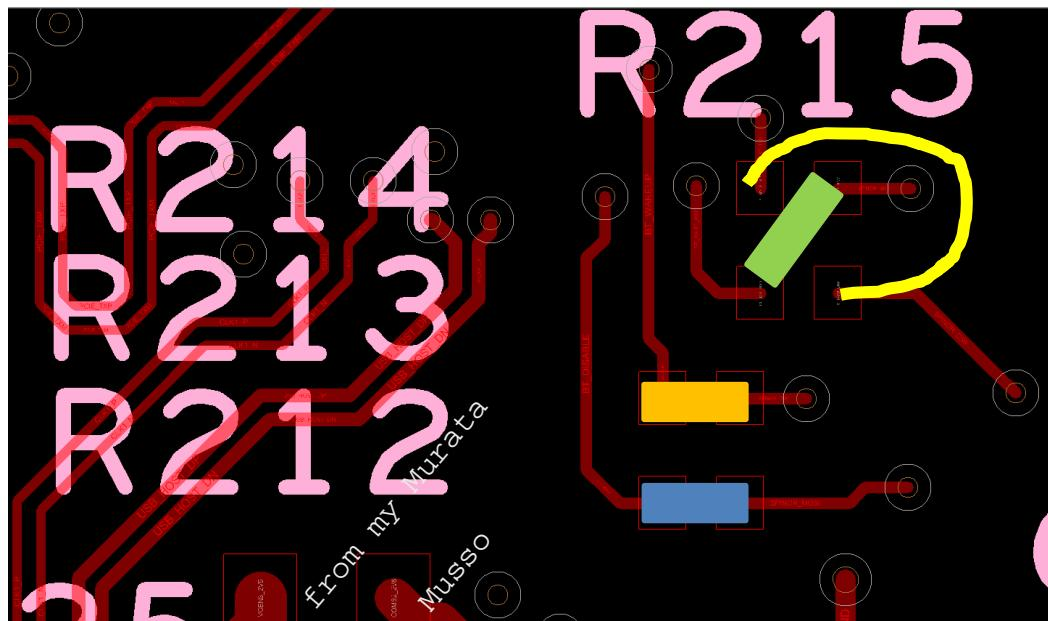

Figure 37: WL_REG_ON/WL_HOST_WAKE/BT_UART_TX/BT_UART_RX rework
- 3) Referring to Figure 37, populate resistors R212 (Pin#1/KEY_ROW0/WL_REG_ON: blue) and R213 (Pin#2/KEY_COL0/WL_HOST_WAKE: orange). Now we have to swap the TX/RX lines so “MPU TX <-> BT RX” and “MPU RX <-> BT RX”. R214/Pad#1 connects to R215/Pad#2; and R214/Pad#2 connects to R215/Pad#1. One connection can be crossed by placing resistor on 60 degree angle (approx.) and the other connection made with blue-wire (yellow) as shown.